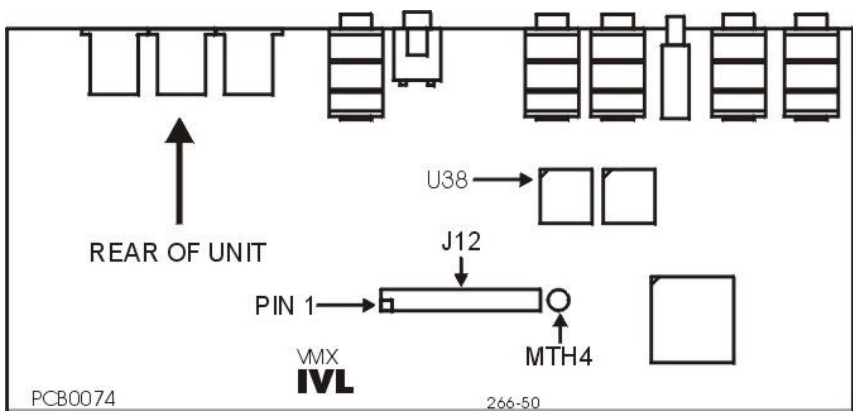

Figure 1 - VoicePrism Main Board
3. Using an IC puller, remove the ROM from location U38 on the main board of the VoicePrism, as indicated in Figure 1.
4. Press the plastic standoff into the hole labeled MTH4 on the main circuit board in the VoicePrism, as indicated in Figure 1.